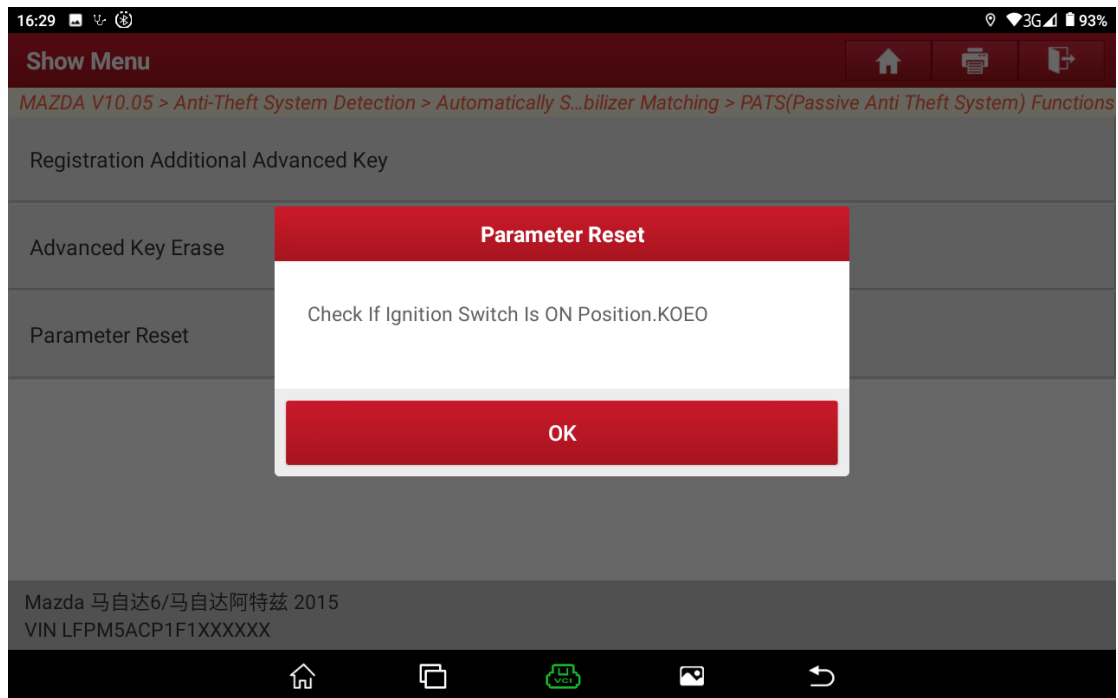

Figure 11
9. Prompt to turn on the ignition switch. See Figure 11.